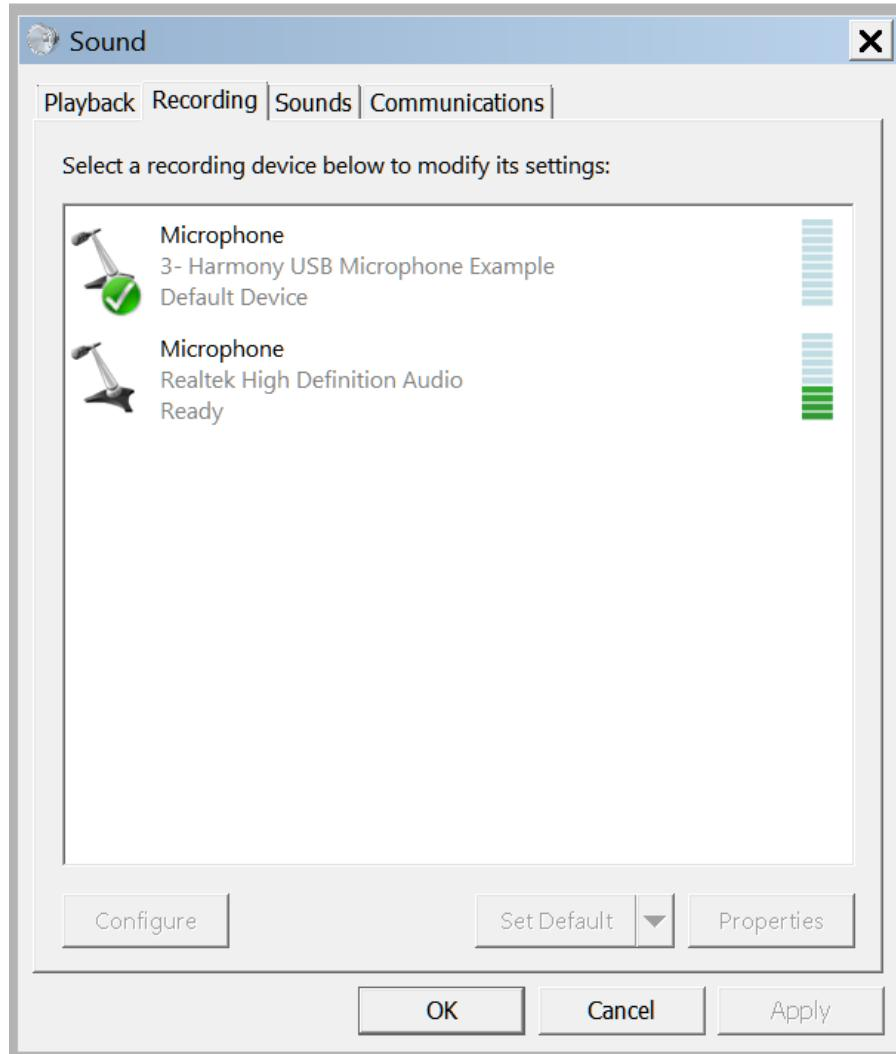

Figure 2. Windows 7 Sound Dialog showing USB Microphone with Sound Level Meter
5. If needed, configure the Host computer to use the usb_microphone as the selected audio recording device. For Windows, this is done in the "Recording" tab in the "Sound" dialog (as shown in Figure 2) accessed by right clicking the loudspeaker icon on the taskbar.